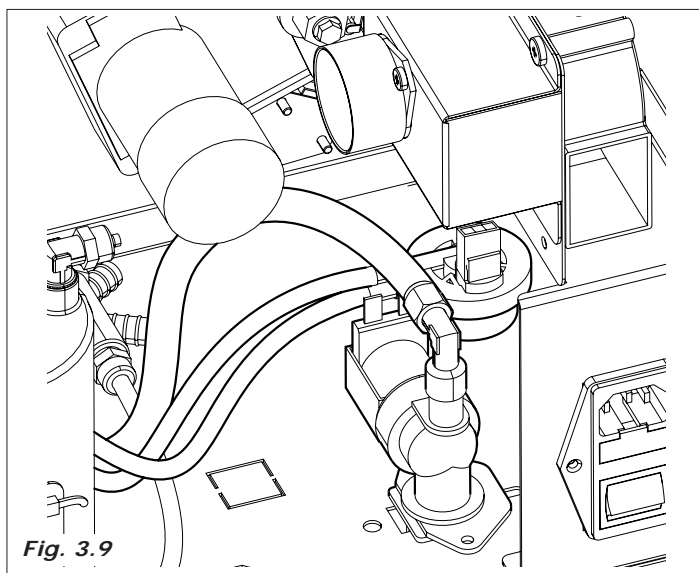

Fig. 3.9
- the pump that dispenses the quantity of programmed water and that is controlled by a specific electronic device, (volume meter), withdrawing the water from the coffee boiler (Fig. 3.9).